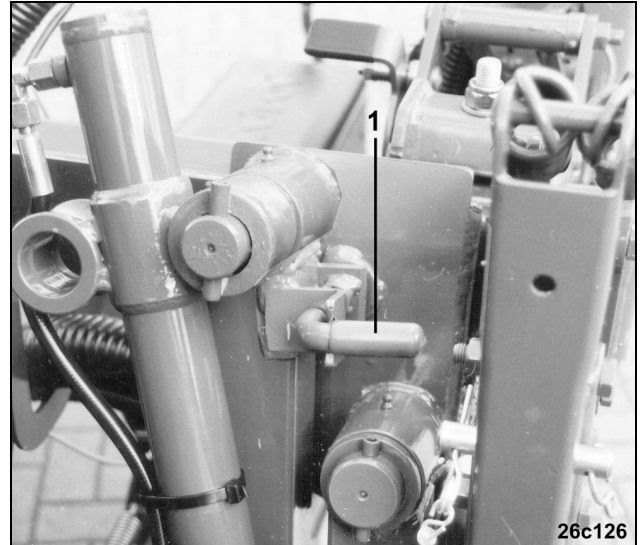

Fig. 141
- Unlock the outer sowing units from transport position (Fig. 141/1) ED 452-K and (Fig. 142/1) ED 602-K.